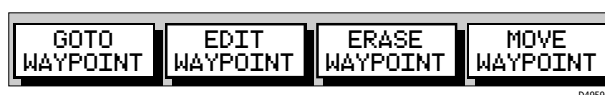

Figure 3-23: Waypoint Soft Keys
The Waypoint Data box (see *Waypoint Data Display* below) and the soft keys are displayed as shown in *Figure 3-23*:
- Whilst the cursor is over the waypoint, the waypoint soft keys are displayed, see *Figure 3-23*.